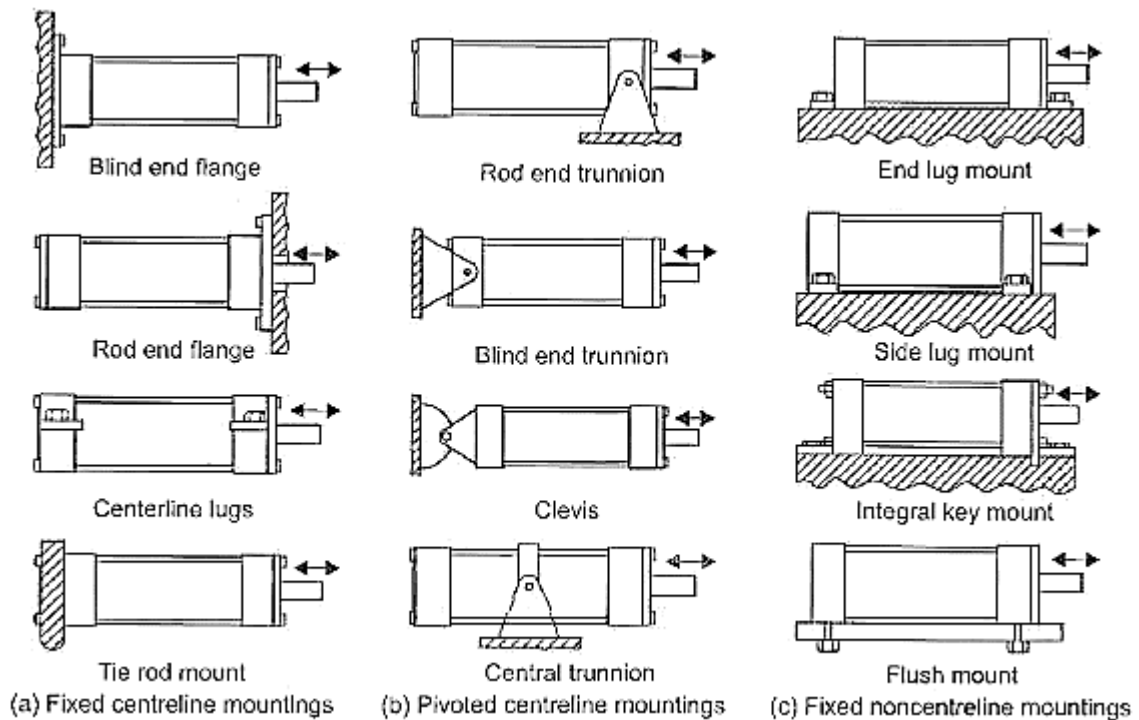

Fig.5.12 Types of Mountings
- ▶ The way in which the cylinder is mounted affects the service life, maintenance frequency and the success of the entire installation. Poor mounting design can cause excessive side loads and stresses which bring about early failure of vital components. There are three main categories of cylinder mountings. The selection of these mountings depends on the application and the machine configuration. Fig.5.12 shows all three cylinder mountings.